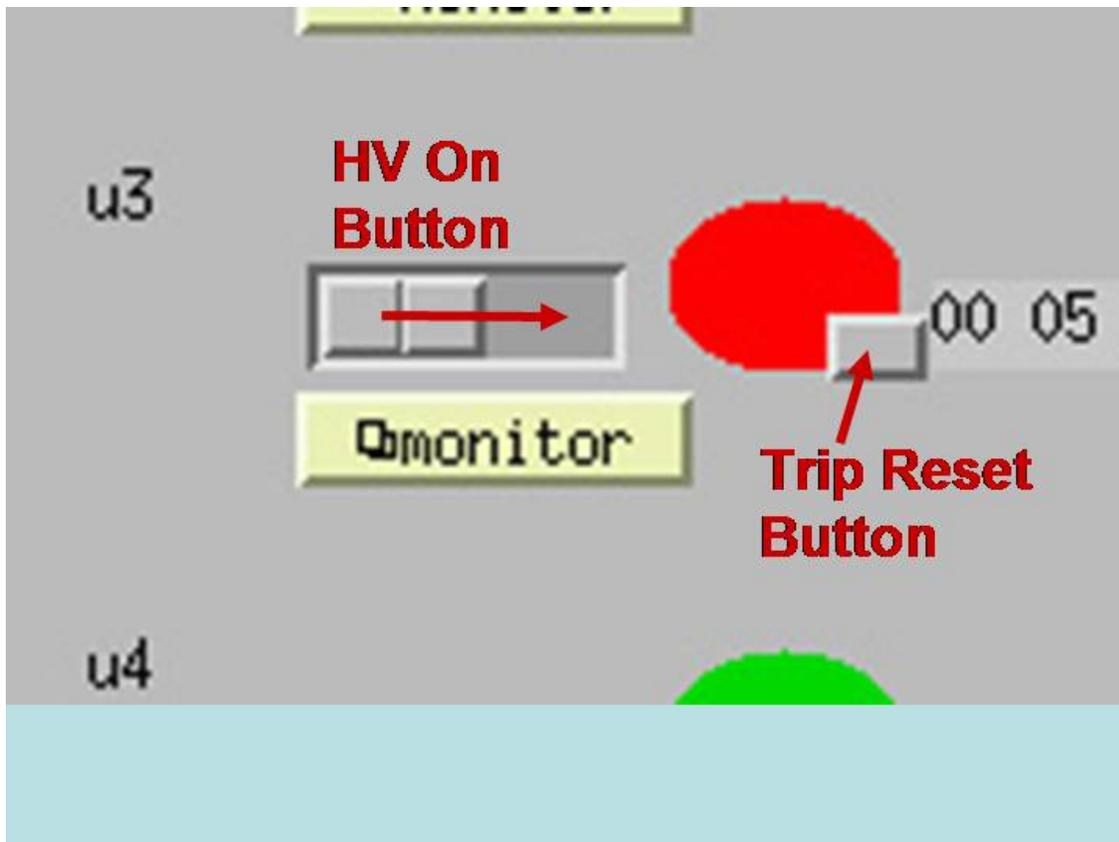

Figure 6. HV trip reset detail.
B. You will notice the status indicator for the tripped channel is red and the readback voltage is ~ 0 . The trip reset button is at the lower right edge of the red status indicator (detail shown in fig. 6). Click it to reset the trip. The red status indicator may briefly disappear and return. Wait a few seconds and then click and drag the HV On Button for the channel to the right. The slider button should stick in the right position and the status indicator turn green. The high voltage for that channel will slowly ramp to the present setting (about 5 min. to get to physics voltage).